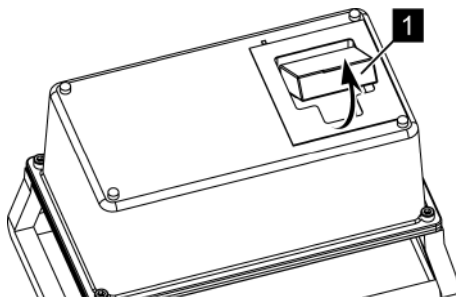

Fig. 103: Battery
2. ➔ Remove the empty battery (Fig. 103/1) on the back side of the radio control.